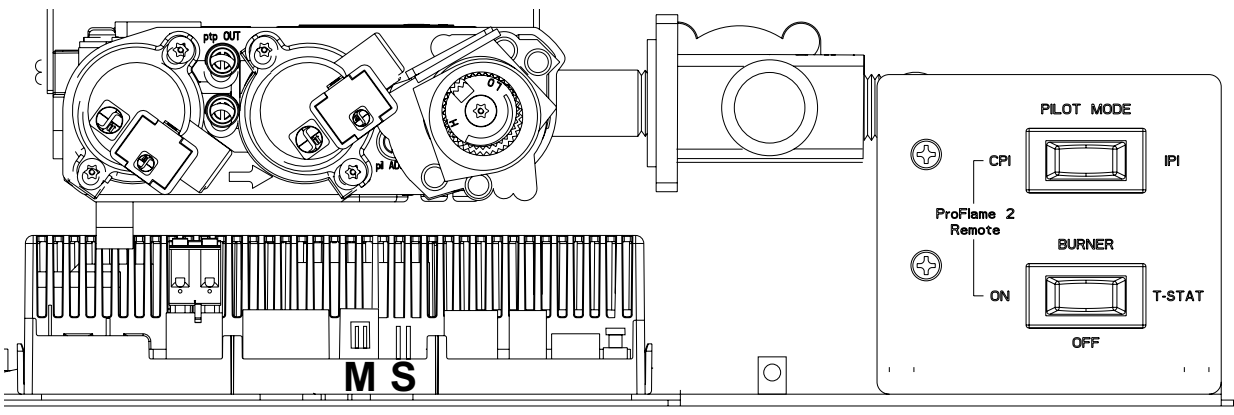

Figure 16.2.
4. Connect the short, blue/pink wire lead labelled “S” to the terminal labelled “S” on the front of the IFC board. See fig. 16.2.